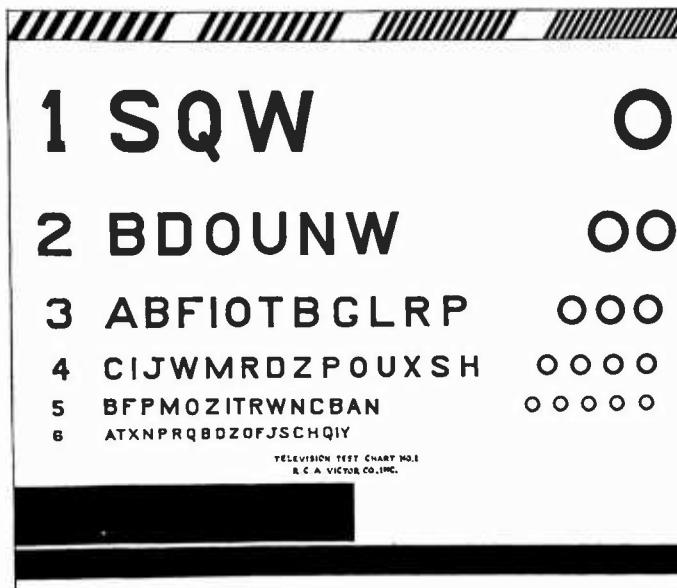
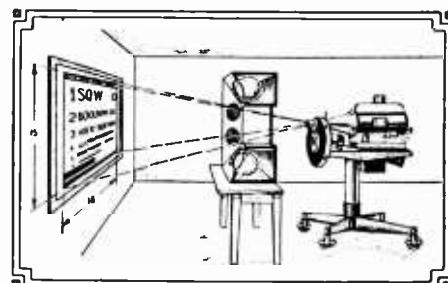
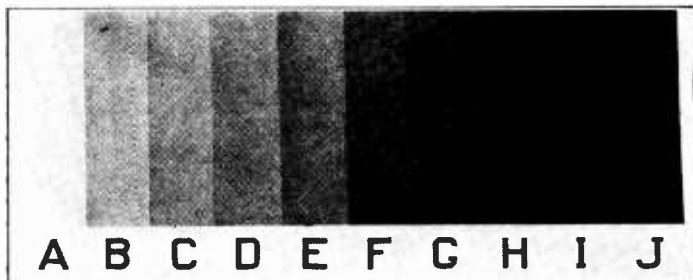

Fig. 1—Black and white chart, which has been found very useful in checking up fidelity in transmission.
Fig. 2—How charts are placed in front of television transmitter.
Fig. 3—This chart permits checking up the fidelity of "half-tone" transmission.
IN the present state of the television art, one of the major necessities is a point source of light of good modulation capability. Such a tube is required in all so-called "projection type" apparatus. Various methods have been employed in achieving the desired "point source". In some lamps the light available is limited by a shield placed within the tube, which is pierced by a minute hole of the desired dimensions—the size being governed by the characteristics of the optical system to be employed. Fig. 1 shows a lamp of this type in cross-section.
In Fig. 2 there appears a method evolved in the attempt to achieve a lamp of improved modulation characteristics. The "crater" takes the form of a hole
Cross-section of improved crater tube perfected by the author, in which the glow is brought out in front of the anode cylinder. Fig. 3.
To accomplish this result the writer set about the design of a tube of the general structure indicated in Fig. 3, and of the form shown complete in Fig. 4. Such a tube has a true "crater" source of (Continued on page 61)
Across the top of the chart in Fig. 1 are groups of alternate white and black slanting bars; each group, left to right, is progressively narrower. In this way the horizontal definition of the system is measured. The heavy black bar,
It is possible, of course, to have good definition in a television system which is capable of reproducing only black and white; therefore, in order to measure the degree of merit of a television system, it is necessary to use, in conjunction with the definition chart of Fig. 1, the second chart shown in Fig. 3. It is
somewhat difficult to expose one sheet of photographic paper successively to secure ten shades which vary from white to black in equal steps. With proper photographic equipment this can be accomplished; but, to make the half-tone chart shown in Fig. 3, we cut the photographic paper, exposed during various experiments, into strips of the desired width, and then selected from about 100 strips of various shades, those which the eye indicated were needed to give the desired number of equal steps. For uniformity, this chart can also be constructed 15" x 18"; so that it can be conveniently mounted on a suitable support in front of the scanner.
What we need is a measure of perception afforded by various television systems. For such a measurement we turn to charts as those shown in Figs. 1 and 3. The purpose of this brief article is to describe the use of these previously mentioned charts as they are employed at the television transmitter, W3XAD, of the Research Division, R. C. A. Victor Company, at Camden, N. J.
The chart of Fig. 1 is enlarged, photographically or otherwise, to the size of 15" x 18" (5-to-6 ratio). The surface must be dull, so that bright reflections of the scanning beam are avoided. The chart may be attached to any convenient support at the proper height in front of the transmitting scanner, as shown in Fig. 2. The proper distance and the proper lens are selected, so that the scanned area just covers the chart and no more. Careful focusing at both the transmitting and receiving scanners (if
beam or pencil of electrons (10). They are further attracted and accelerated by a perforated metal plate (3). There are as many perforations in this plate as there are pins in the glass partition (4). In a 60-line picture, 3,600 perforations as well as 3,600 pins are necessary. Of course, instead of one pin several very thin pins may be made to face a perforation. The end of each pin faces a hole in the perforated metal plate as may be seen in Fig. 2, which shows portions of those elements greatly exaggerated for clarity.
A maximum glow is produced at the end of a pin when a maximum voltage flows through it. This glow-discharge spreads slightly around each pin, so that there are no blank spaces left between them. Fig. 3 is a partial end view of the tube, showing the location of the pins with respect to the anode screen (6).